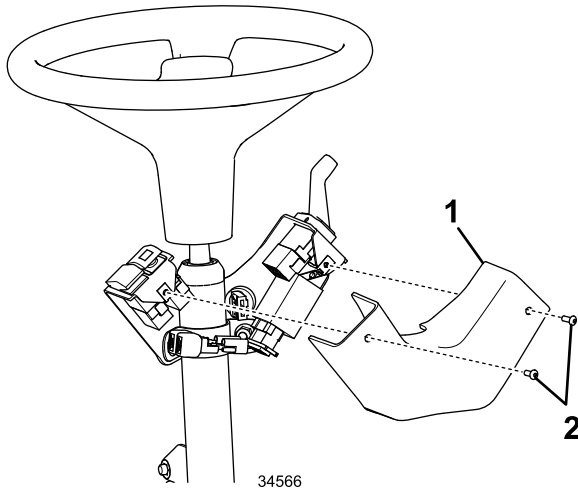

Figure 23
10. Install the cover onto the column-bracket assembly with 2 hex socket button-head screws as shown in Figure 23